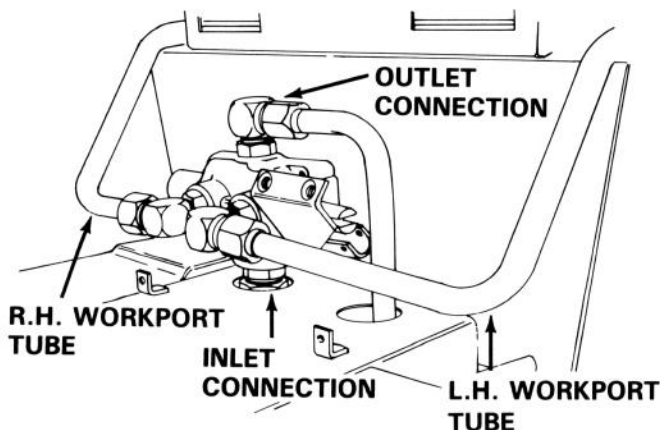

FIGURE 3
2. Install PTO valve (1), connecting inlet and outlet tubes loosely. Mount valve with two (2) each hex socket head screws (2) provided in kit and tighten. See figure 3.
1. Install left hand work-port tube (3) to PTO valve as shown in figure 3. The tube should run parallel with the rear fender. See figure 6.